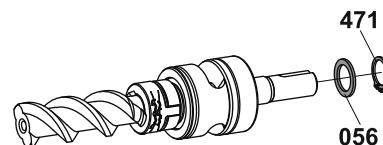

Fig. 9
3. Remove the circlip 471 and supporting ring 056, see Fig. 9.